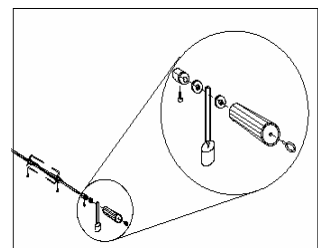

Fig.5
5. Assemble handle and counter balance (See Fig. 5). **Remove if they are not needed.**